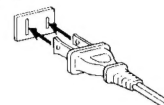

Fig. 1
- 8) **AC power cord (For U.S.A. version only)** The AC power cord of this unit has certain one-way direction connections to prevent electric shock. Refer to the illustration for correct connection. (Fig. 1)